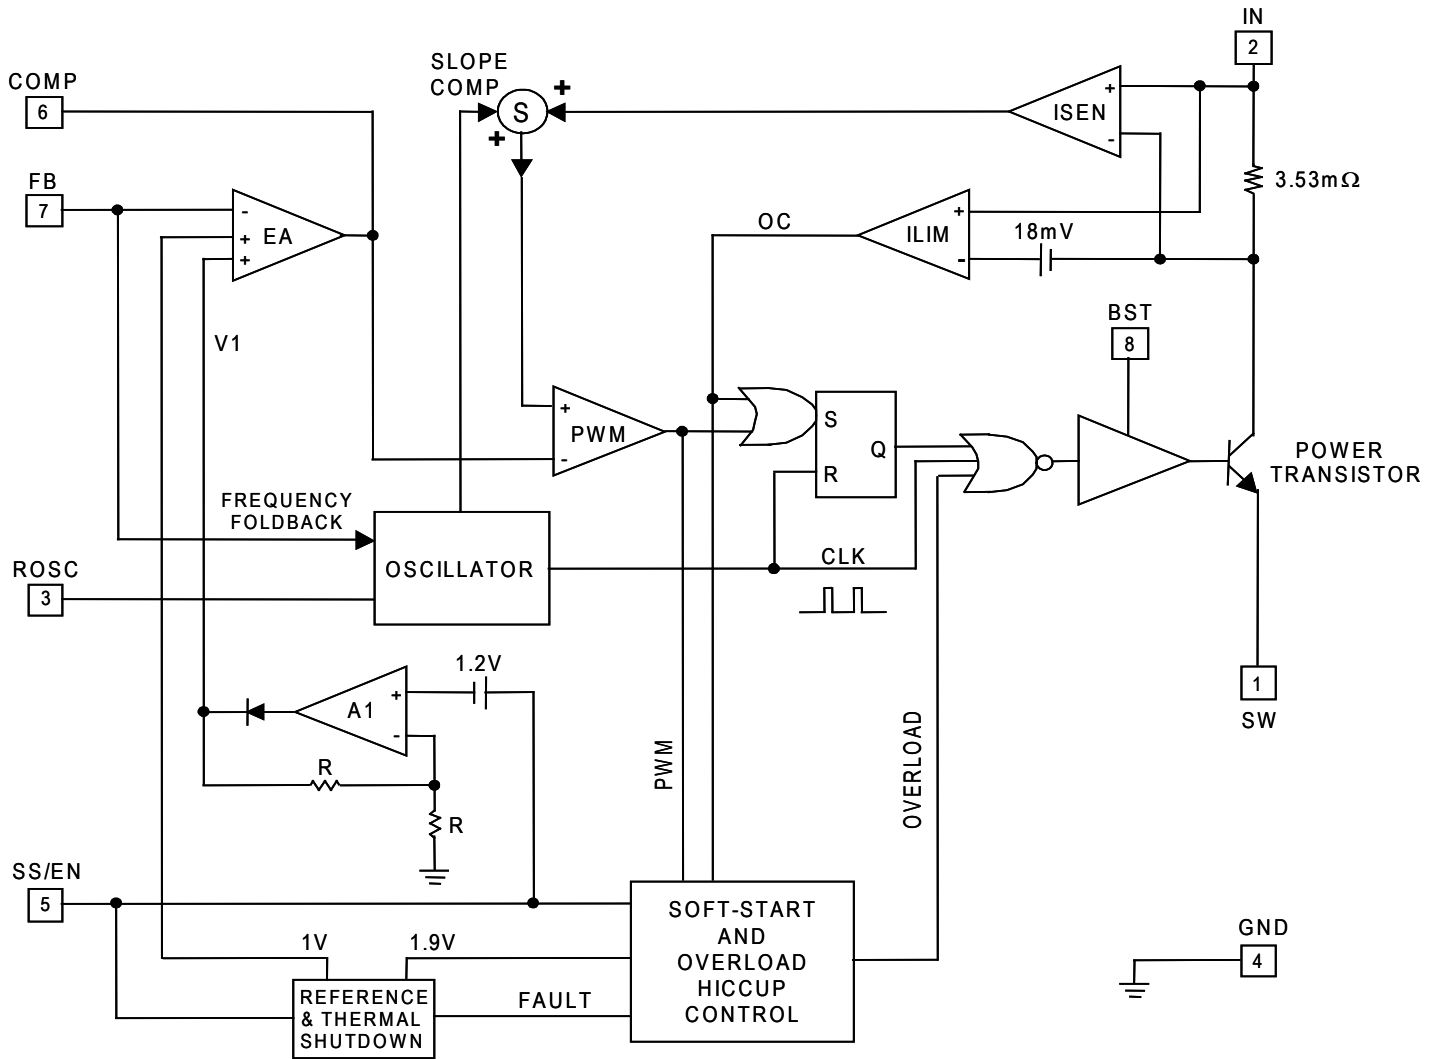

Figure 2 — SC4525F Block Diagram
As shown in Figure 2, the switch collector current is sensed with an integrated 3.53mΩ sense resistor. The sensed current is summed with a slope-compensating ramp before it is compared with the transconductance error amplifier (EA) output. The PWM comparator trip point determines the switch turn-on pulse width. The current-limit comparator ILIM turns off the power switch when the sensed signal exceeds the 18mV current-limit threshold.
The error amplifier EA in Figure 2 has two non-inverting inputs. The non-inverting input with the lower voltage predominates. One of the non-inverting inputs is biased to a precision 1V reference and the other non-inverting input is tied to the output of the amplifier A_1 . Amplifier A_1 produces an output $V_1 = 2(V_{SS/EN} - 1.2V)$. V_1 is zero and COMP is forced low when $V_{SS/EN}$ is below 1.2V. During start up, the effective non-inverting input of EA stays at zero until the soft-start capacitor is charged above 1.2V. Once $V_{SS/EN}$ exceeds 1.2V, COMP is released. The regulator starts to switch when V_{COMP} rises above 0.4V. If the soft-start interval is made sufficiently long, then the FB voltage (hence the output voltage) will track V_1 during start up. $V_{SS/EN}$ must be at least 1.83V for the output to achieve regulation. Proper soft-start prevents output overshoot. Current drawn from the input supply is also well controlled.
As summarized in Table 1, overload shutdown is disabled during soft-start ($V_{SS/EN} < 2.15V$). In Figure 3, the reset input of the overload latch B_2 will remain high if the SS/EN voltage is below 2.15V. Once the soft-start capacitor is charged above 2.15V, the output of the Schmitt trigger B_1 goes high, the reset input of B_2 goes low and hiccup becomes armed. As the load draws more current from the regulator, the current-limit comparator ILIM (Figure 2) will eventually limit the switch current on a cycle-by-cycle basis. The over-current signal OC goes high, setting
The PWM latch in Figure 2 is reset every cycle by the clock. The clock also turns off the power transistor to refresh the bootstrap capacitor. This minimum off time limits the attainable duty cycle of the regulator at a given switching frequency. The measured minimum off time is 138ns typically. If the required duty cycle is higher than the attainable maximum, then the output voltage will not be able to reach its set value in continuous-conduction mode.